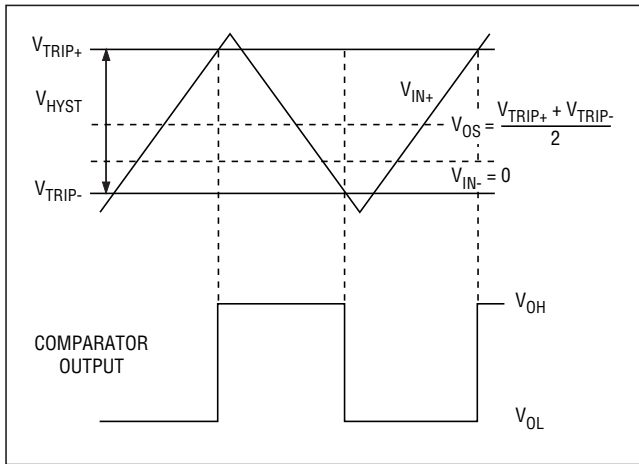

Figure 1. Input and Output Waveforms, Noninverting Input Varied
**Note 2:** Input Offset Voltage is defined as the center of the input-referred hysteresis zone. Specified for  $V_{CM} = 0$ . See Figure 1.
**Note 3:** Trip Point is defined as the input voltage required to make the comparator output change state. The difference between upper ( $V_{TRIP+}$ ) and lower ( $V_{TRIP-}$ ) trip points is equal to the width of the input-referred hysteresis zone ( $V_{HYST}$ ). Specified for an input common-mode voltage ( $V_{CM}$ ) of 0. See Figure 1.
Adding hysteresis to a comparator creates two trip points: one for the input voltage rising and one for the input voltage falling (Figure 1). The difference between these two input-referred trip points is the hysteresis. The average of the trip points is the offset voltage.
Figure 1 illustrates the case where IN- is fixed and IN+ is varied. If the inputs were reversed, the figure would look the same, except the output would be inverted.